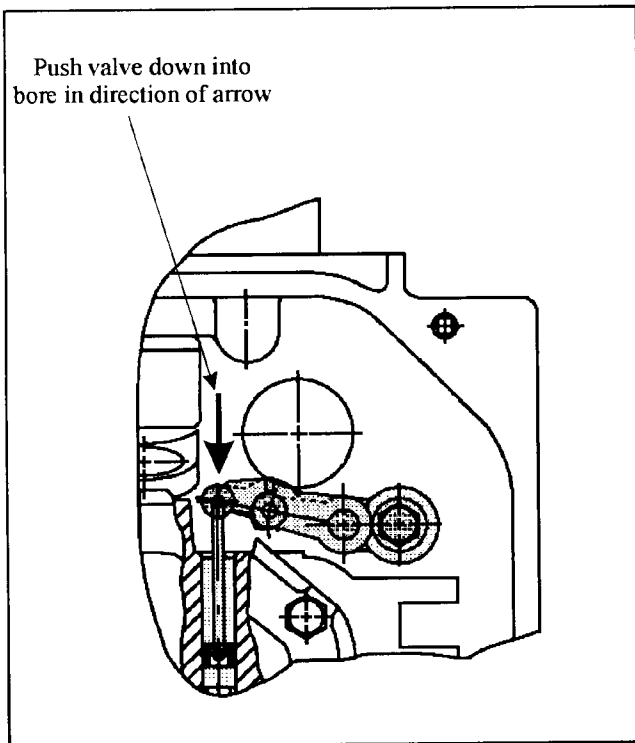

Figure 166
41. To adjust manual valve: Move selector lever to the park position. Loosen the small adjusting bolt enough so that the adjusting arm will move freely. Push the manual selector control arm that is attached to the manual valve back into the bore as far as it will go. (Follow the direction of the arrow in Figure 166). When the manual valve is at the stop, hold the manual valve tight against the stop and tighten the locking bolt to (31 in.lb.).